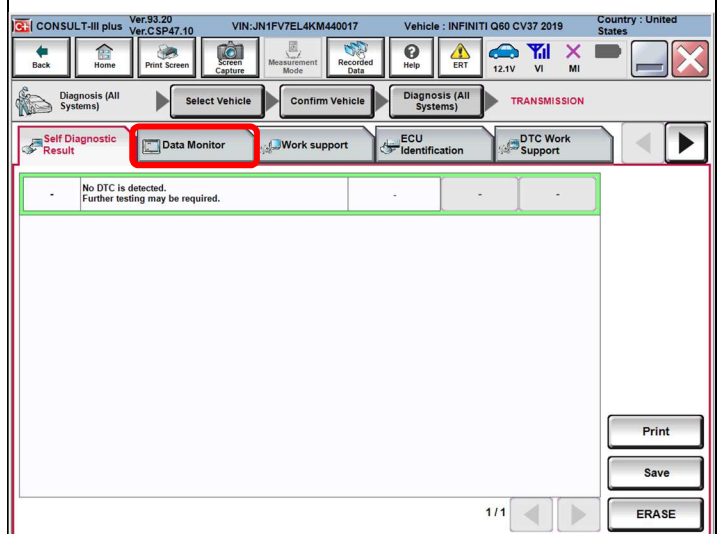

Figure 5
7. Select Data Monitor. (Figure 5)